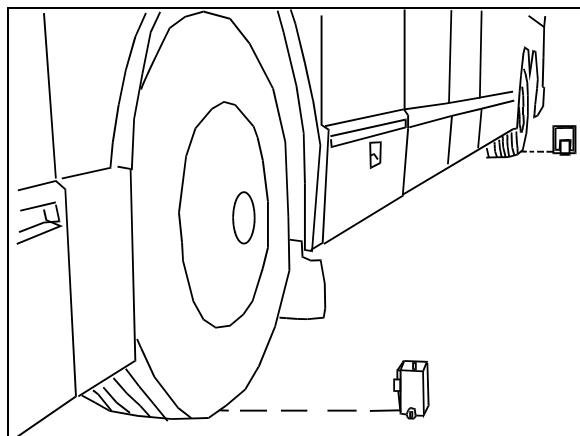

FIGURE 33: INSTALLING CALIBRATION FIXTURES
7. Install a calibration fixture in the axis of front axle wheel and one in the axis of rear axle wheel (Fig. 33).